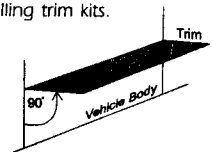

fig. 2
- ◆ **HOLD THE PIECE AT A 90° ANGLE TO THE VEHICLE,** and touch the very top edge to the vehicle, observing your placement and alignment guides. If you need to adjust placement, simply raise the piece past 90° and lift off. (see fig. 2)